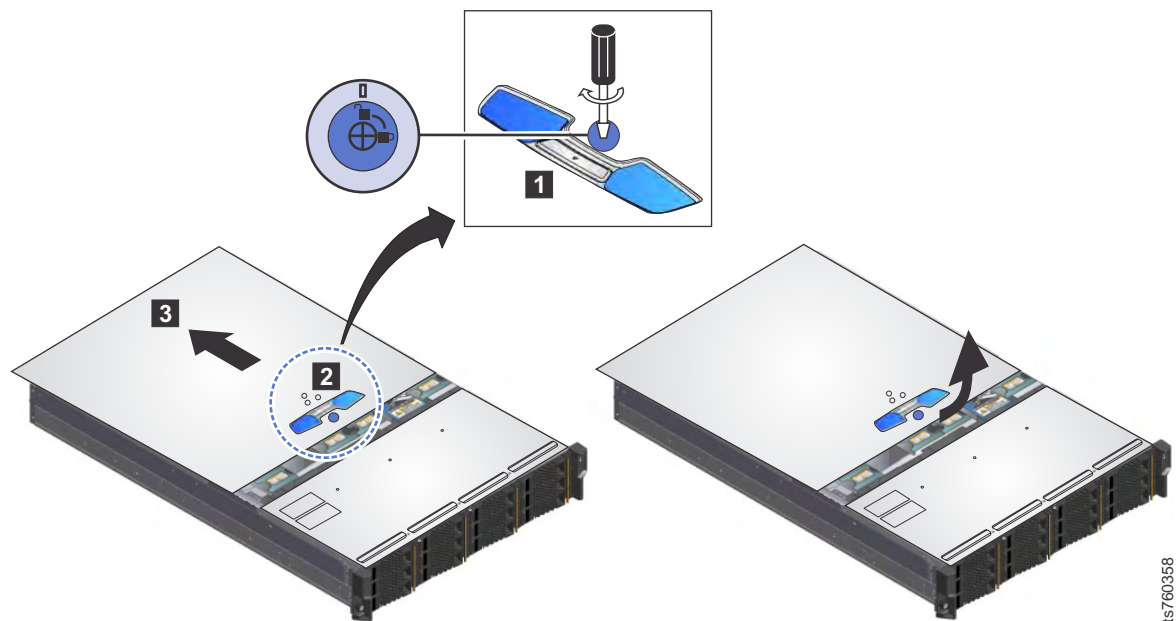

Figure 35. Remove chassis cover
3. Refer to Figure 35. Loosen the cover's holding screw **1** by 1/4 turn clockwise. Press the silver button **2** and **3** slide the cover back and up to remove it.